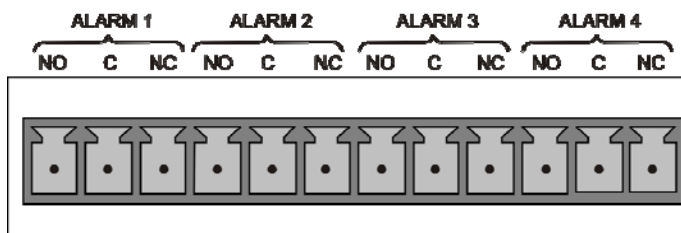

Figure 3-11: Concentration Alarm Relay
The Teledyne API T-Series analyzers have an option for four (4) “dry contact” relays on the rear panel of the instrument. This relay option is different from and in addition to the “Contact Closures” that come standard on all TAPI instruments. The relays have three pins that have connections on the rear panel (refer Figure 3-11). They are a Common (C), a Normally Open (NO), and a Normally Closed (NC) pin.